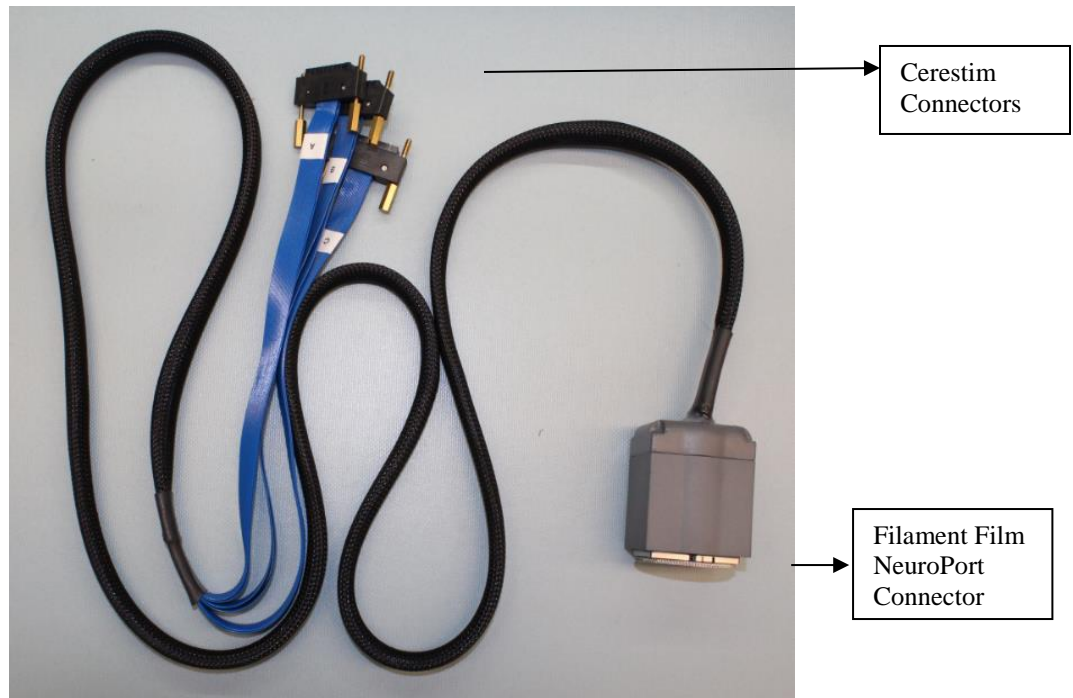
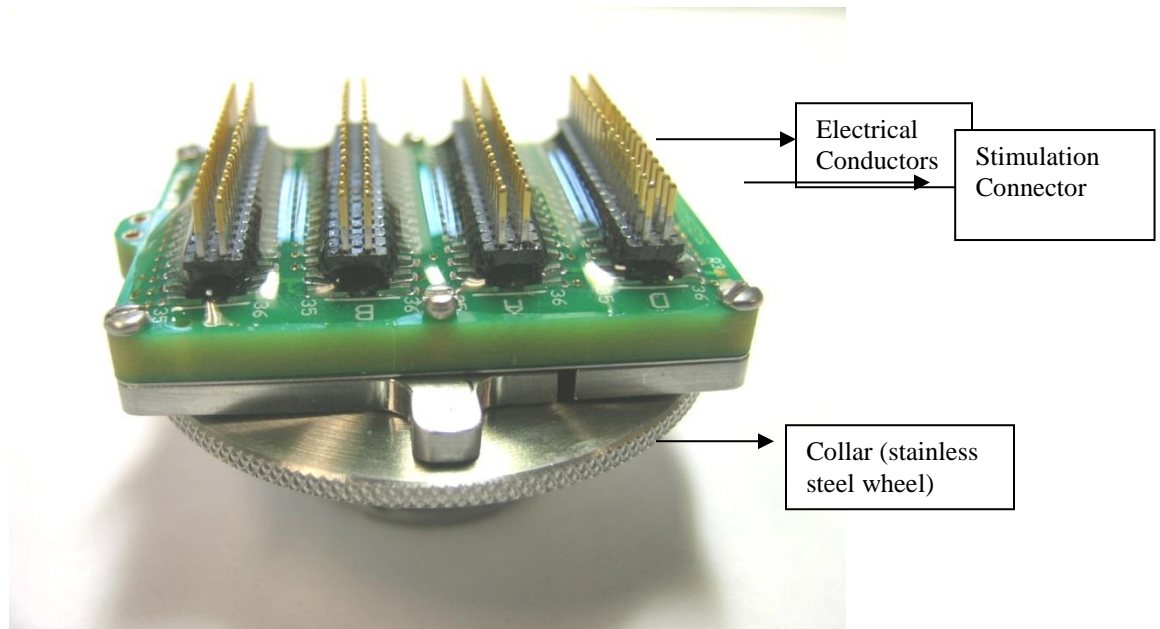

Figure 1: Top View of Cerestim Patient Cable with Filament Film NeuroPort[®] Connector
Figure 2: Isometric View of Filament Film NeuroPort Connector
This document provides the instructions for use for Cerestim Patient Cable. Figure 1 shows a Blackrock Cerestim Patient Cable with a Filament Film NeuroPort[®] Connector. Figure 2 shows an isometric view of the Filament Film NeuroPort[®] Connector.
- 2) Touch the collar (stainless steel wheel as shown in Figure 2) of the Cerestim Patient Cable to the skin of the patient. This will prevent electrostatic discharge into the pedestal contacts.